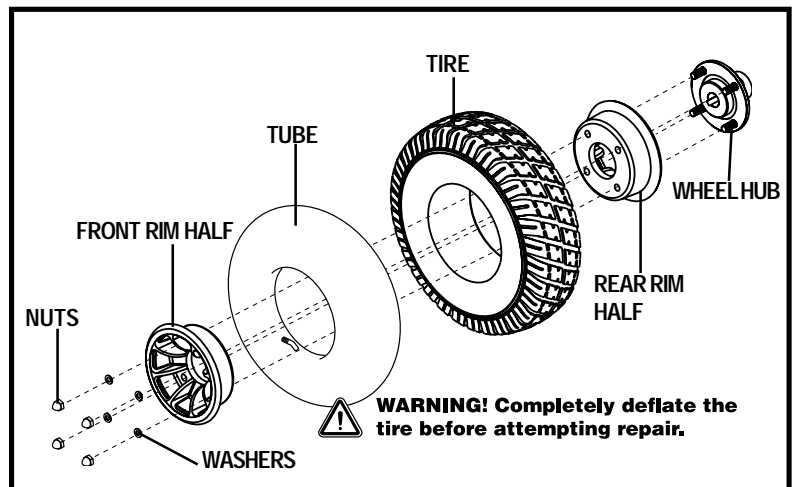

Figure 32. Quantum Dynamo 1107 Drive Wheel Disassembled
6. Remove the nuts and washers from the wheel hub and separate the rim halves. See figure 32.